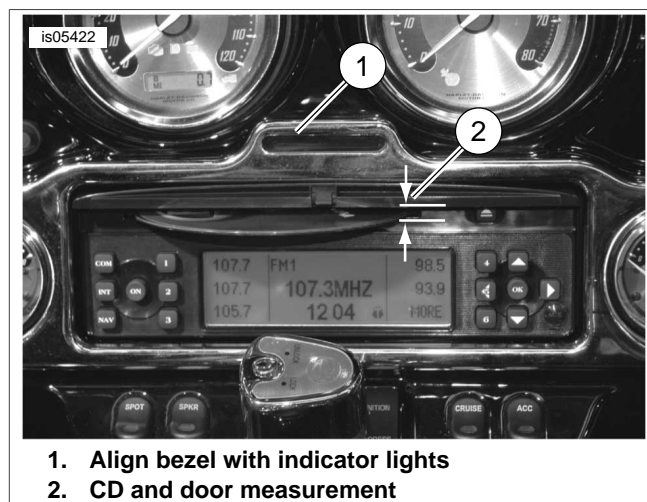

Figure 4. Install Radio/Gauge Bezel
4. See Figure 4. Install the bezel aligning the opening in the bezel (1) with the indicator lights and verifying that the CD door opens without rubbing against the bezel.
5. Measure the distance between the door and the CD (1). If the distance is 1/8 inch or more, the installation is complete. If the distance is less than 1/8 inch, proceed to Step 6.